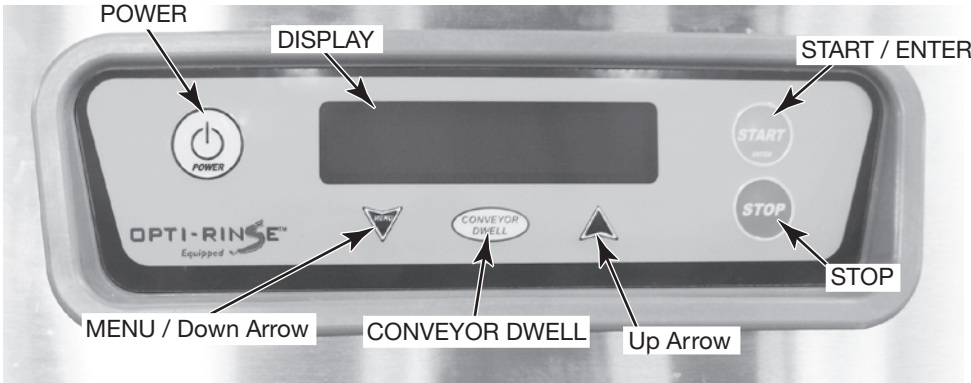

Fig. 28
The controls are mounted on top of the dishwasher. The Keypad and Display are mounted in front of the control box (Fig. 28).
Close all doors. To begin filling after the machine is ready, press the POWER key (Fig. 28).
5. Press the POWER key on the keypad (Fig. 28). Dishwasher will fill automatically (refer to Filling the Dishwasher, this page). After the tank has filled, the burner will ignite if heat is required. The ignition system includes a 15-second pre-purge period before ignition occurs.
6. If the dishwasher will not operate, press the POWER key on the keypad (Fig. 28) and turn the manual gas valve Off. Call your local Hobart service office or gas supplier.
After the machine has filled, start the pumps by pushing the START / ENTER key on the keypad (Fig. 28) or by inserting a rack into the machine.
The conveyor dwell feature, standard, allows the operator to stop the conveyor in order to wash heavily soiled dishes for a longer time. When the dish rack reaches the wash chamber, push the CONVEYOR DWELL key on the keypad (Fig. 28) to momentarily stop the conveyor. To restart the conveyor, press either the START / ENTER or the CONVEYOR DWELL keys on the keypad (Fig. 28).
If the rack jams or if the load becomes excessive, an overload mechanism shuts off the conveyor drive motor and 'Clear Conveyor Jam' displays. Open the doors and remove the jam. After the jam is cleared, close the doors and push the START / ENTER key on the keypad (Fig. 28) to restart the dishwasher.
All tank temperatures are shown on the Display (Fig. 28) when the machine is in operation. The Final Rinse temperature displays --- until a rack is in the rinse zone; then, the Final Rinse water temperature displays. After the ware exits the rinse zone, the Final Rinse temperature display returns to ---.
To conserve energy, if no rack enters the machine for a preset amount of time, the Auto-Timer counts down and the pumps and conveyor shut off. Tanks continue to heat, and tank temperatures display. To resume operation, insert a rack or press the START / ENTER key on the keypad (Fig. 28).
After a period of machine inactivity, the control initiates Energy Saver Mode (ESM): All warewasher components are turned off, and the display on the control dims, displaying 'Energy Saver Active / Press STOP to Exit'. To exit Energy Saver Mode, press the STOP key (Fig. 28). You may press the POWER key to completely turn the machine off. The period of machine inactivity prior to ESM can be set from 1 to 6 hours in the Parameters Menu; 2 hours is the factory setting. Refer to page 34.
1. Press the POWER key on the keypad to turn the machine Off (Fig. 28).
Deliming instructions: Follow instructions on the delime-chemical container. During deliming, machine should be on with pumps running, but the conveyor can be idle. Press the CONVEYOR DWELL key on the keypad (Fig. 28) to turn off the conveyor motor and conveyor during deliming.